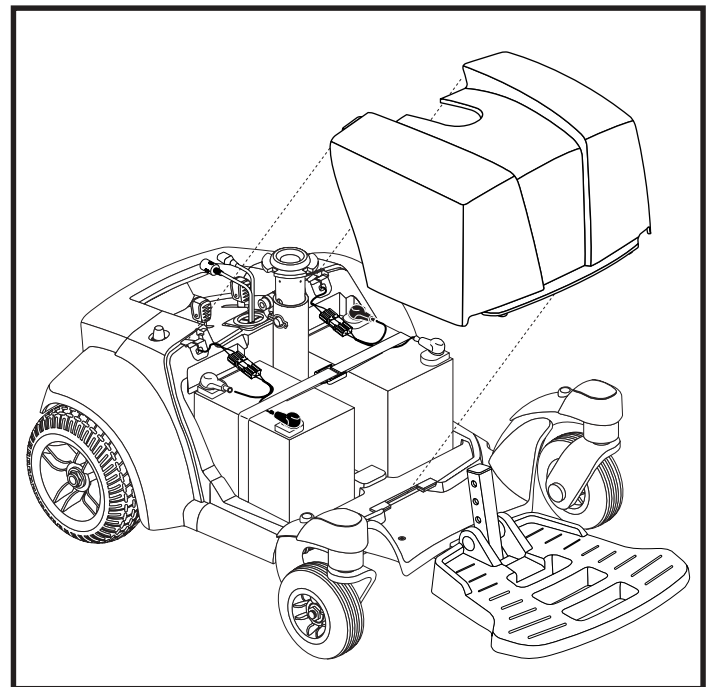

Figure 18. Battery Cover Removal
1. Lift up on the shroud and slide the tabs out as shown in figure 18.
8. Reinstall the shroud by aligning the tabs as shown in figure 18 and pressing down.